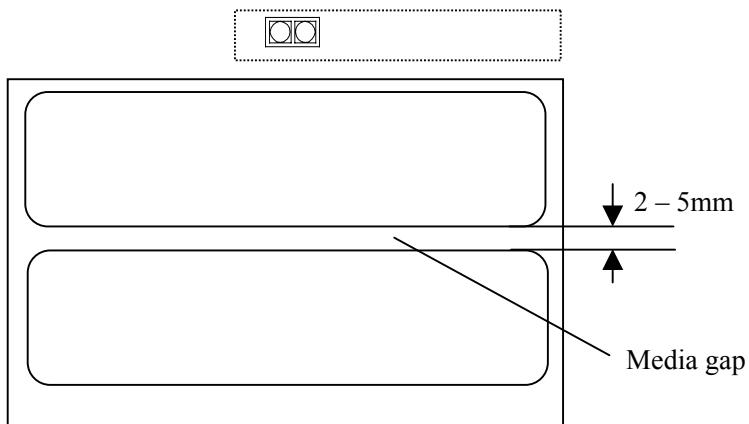
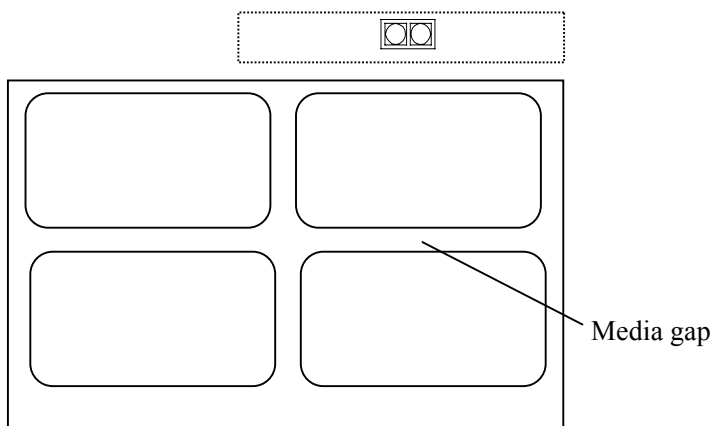
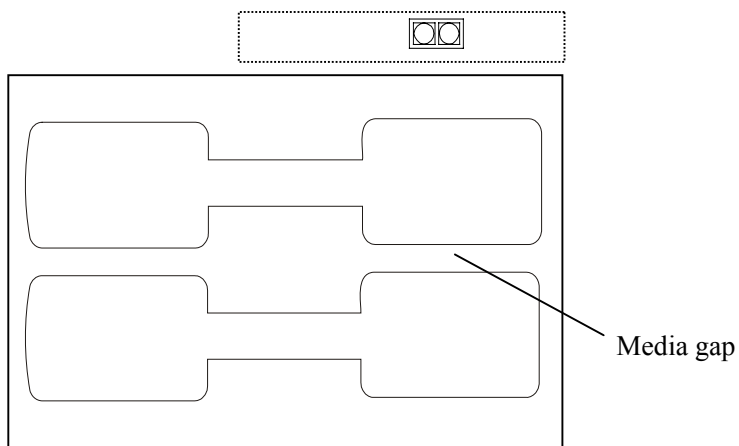

Figure 7-3
Figure 7-4
Figure 7-5
4. Remove the media sensor cover and slide the media sensor to the appropriate position (refer to Figure 7-3, Figure 7-4 and Figure 7-5).